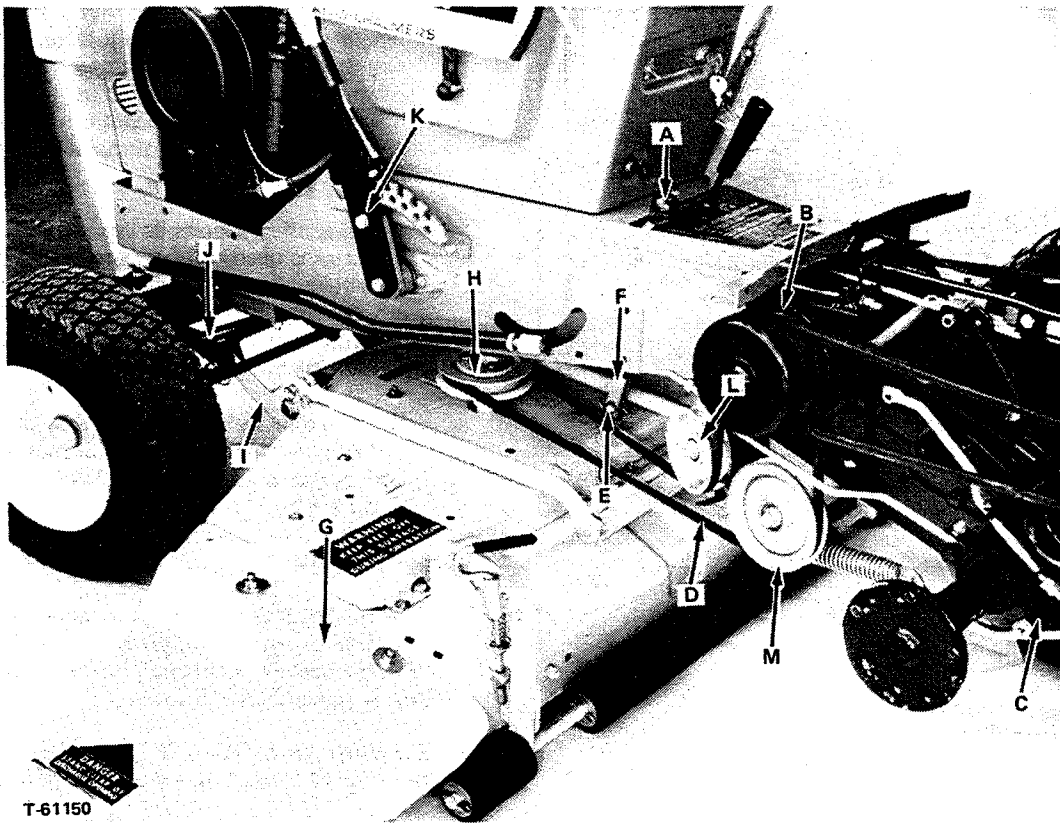
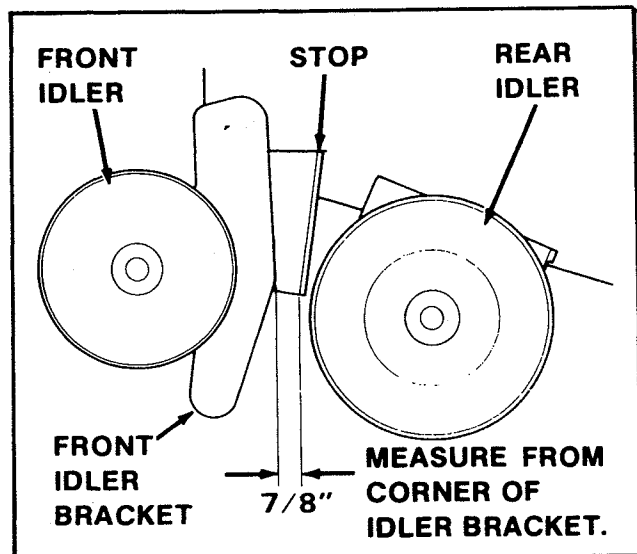

FIGURE 37 - Mower Installation
FIGURE 37A
4. Use the lift cable pin and spring clip to attach the tractor lift cable clevis to the mower lift anchor. (E, Figure 37).
**NOTE:** The front idler pulley (L, Figure 37) should be in the top mounting hole for mower installation.
8. Push the belt tensioning lever (C, Figure 37) fully down and forward.
10. Install the mower drive belt provided on the mower pulley and the tractor pulleys. The belt must be seated in the inner groove of the PTO pulley. Make sure that flat side of the belt contacts the front idler pulley (L).
12. Notice that the rear idler pulley (M) is mounted in a slot. The pulley can be moved forward or back to increase or decrease belt tension. For initial setting proceed as follows. With the pulley tensioning lever pulled fully up and back, measure the clearance between the front idler bracket and the stop. See diagram in Figure 37A. The clearance should be approximately 7/8" (22 mm). If not, push the belt tensioning lever down. Change position of the rear idler pulley in the slot. Recheck the measurement with belt tensioning lever pulled up and back.
2. Push the belt tensioning lever (C, Figure 37) fully down and forward to release mower belt tension.
3. Raise the tractor seat deck and remove the mower drive belt from the mower and tractor pulleys (see Figure 37). Close the tractor seat deck.